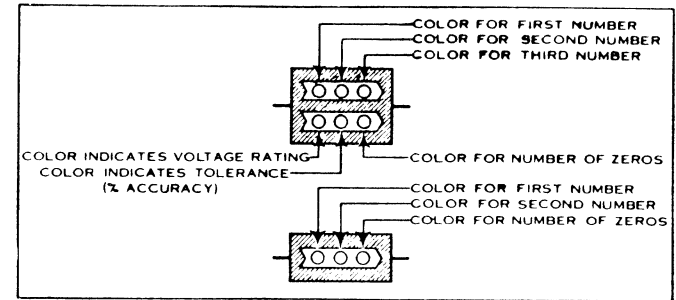

FIGURE 13. RMA MICA CAPACITOR COLOR CODE CHART
**EXAMPLE:** A 56,300 MMFD. (0.0563 MFD.) capacitor of 10% tolerance and a 500 volt rating is indicated by a green dot (5), a blue dot (6), and an orange dot (3), on the top row; a red dot (2 zeros) (00), a silver dot (10% tolerance) and a green dot (or no color) (500 volts) arranged in the order shown in Figure 13. All capacitance values are given in micro-microfarads (MMFD). To convert to microfarads (MFD) move the decimal point 6 places to the left. Small capacitors are often marked with 3 dots as shown in Figure 13. For example, a 250 MMFD. unit (.000250 MFD.) would be marked Red (2), green (5), and brown (1 zero) (0).